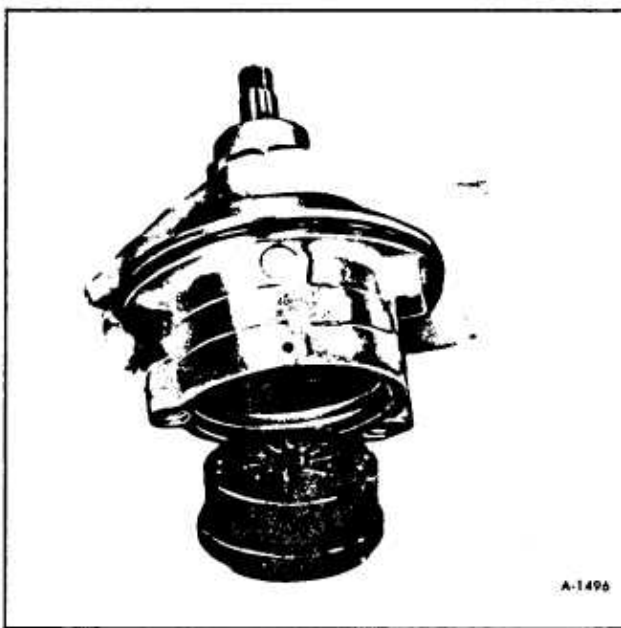

Figure 14—Removal of Shaft, Pressure Plate, Pump Ring, Vanes and Rotor
10. Remove pressure plate, shaft, pump ring, vanes and rotor. (figure 14).